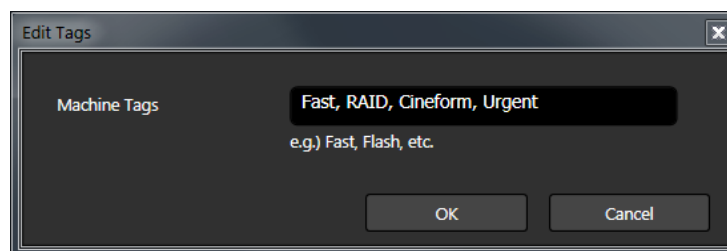

Figure 8. Adding tags to an encoding machine.
4. In the Edit Tags dialog, type the desired tags, separated by a comma or semi-colon (Figure 8).